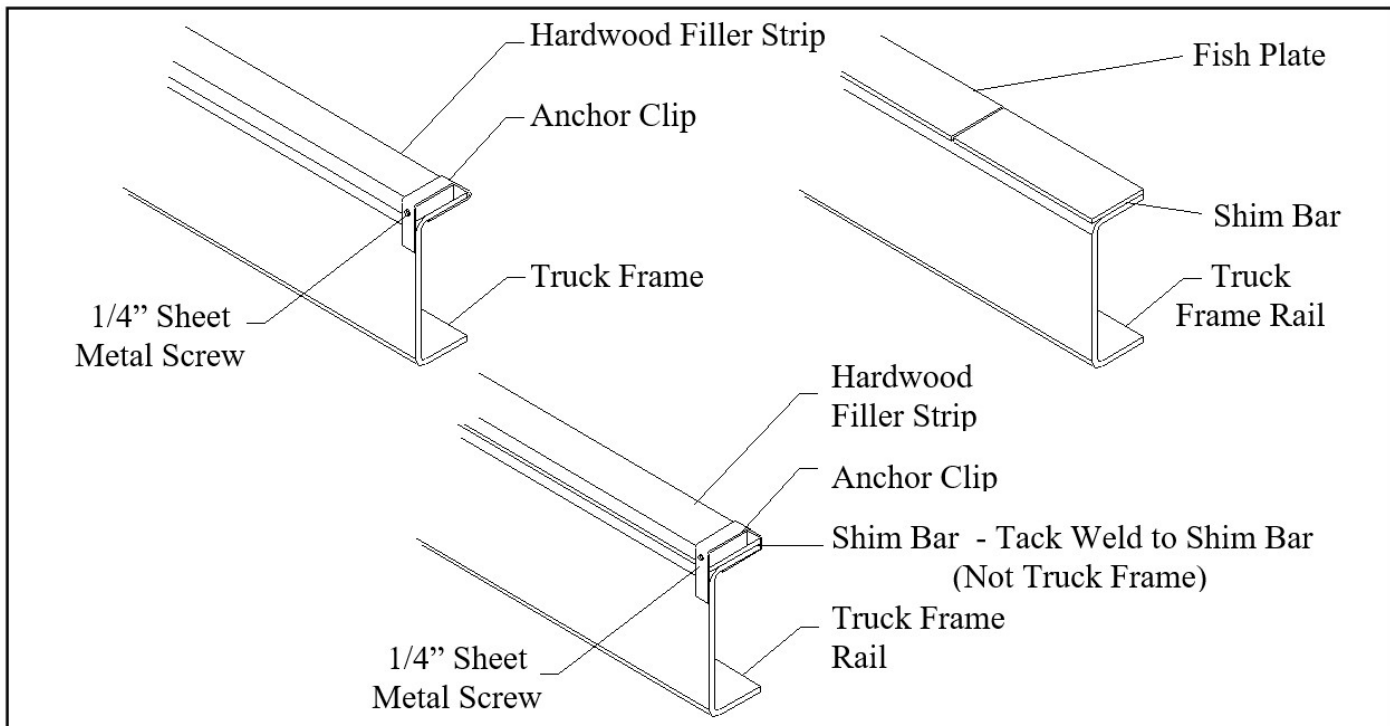

Figure 2 - Wood Filler Strips & Anchor Clips
Hardwood filler strips (not supplied with spreader), one by three inches, must be installed the length of the frame behind the truck cab. Cut the filler strip to length and place on top of the truck frame rails. With a heavy hammer strike directly above each rivet head to mark the position of the rivet, if frame has rivets in top flange. Remove the filler strips and counterbore for the rivet heads. Replace the filler strips and hold them in place by bending anchor clips as shown in Figure 2. If the truck frame has fishplates on the top flange, it will be necessary to provide a level top surface by adding steel shim bars or strips of the same thickness as the fishplates and as wide as the frame channel top flange. These shim bars or strips must be drilled out to clear any rivet or bolt heads. **DO NOT WELD** these bars or strips to the truck frame. To do so may void truck warranty. Place the wood filler strips on top of them and secure both steel shims and wood filler strips by means of bending the anchor clips around them and the frame top flanges as shown in Figure 2. Each steel shim bar or strip and each separate wood filler strip should have three (3) anchor clips. Locate anchor clips between spreader body cross sills. Secure each anchor clip by driving 1/4" sheet metal screw through clip into wood filler strip as shown in Figure 2.